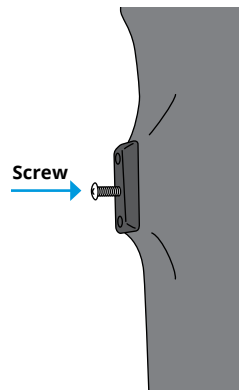

Figure 7
4. Screw one of the provided bolts into the center hole until the dummy breaks free. The remaining putty in the hole protects the lamination from the jacking screw (Figure 7).